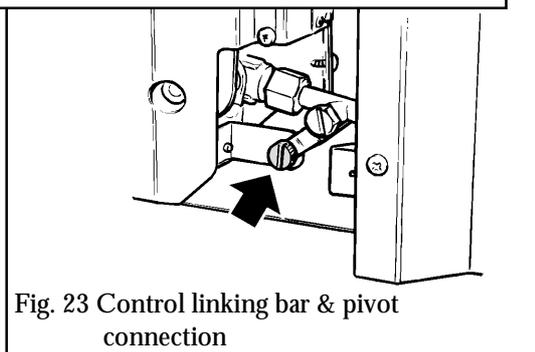

Fig. 23 Control linking bar & pivot connection
9.5 Align the hole near the bottom of the control linking bar with that in the control pivot unit. Join them with the knurled shouldered screw (See figure 23). Make sure that the isolating valve is closed. Slide the control button fully from top to bottom and back to make sure that the slide and pivot mechanisms move smoothly. Note that some resistance should be felt when the slide button reaches the "burner fully on" position.